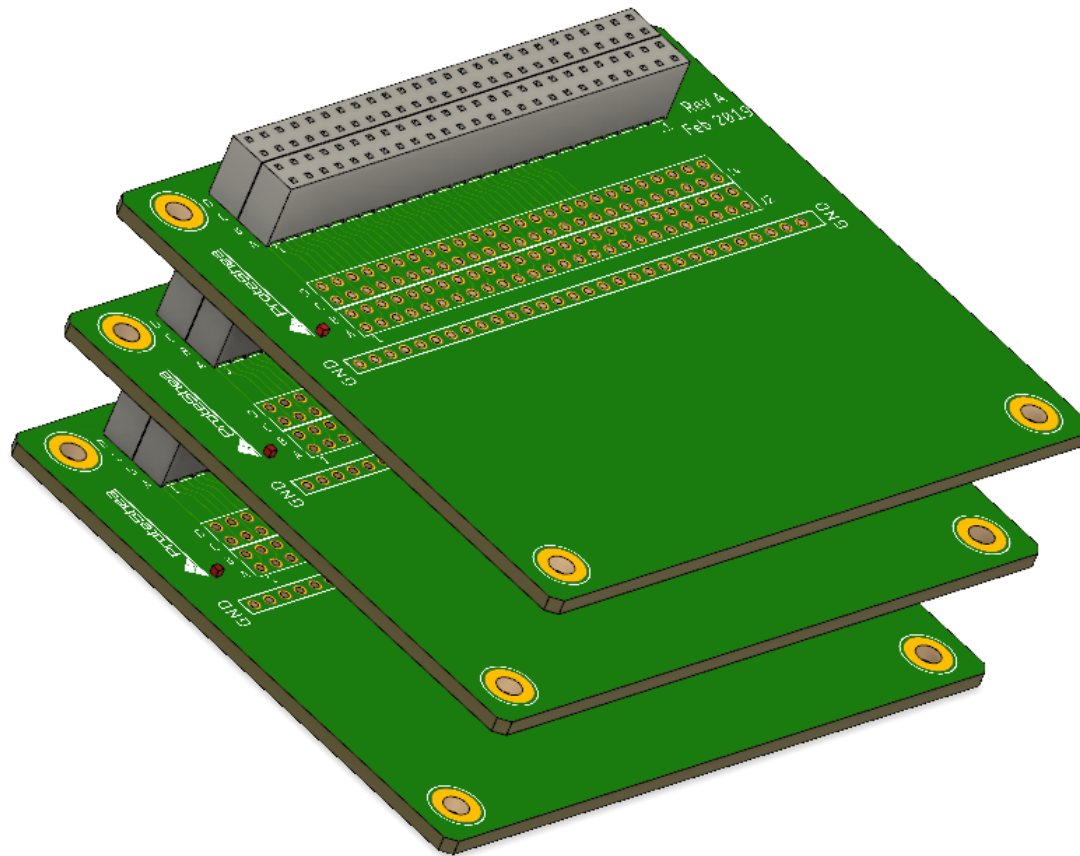

Figure 9. Example Canister Stack.
ELECTRIC SHOCK WARNING: Plugging in additional Canisters to the BaseOps board improperly could pose a potential risk of fire, damage, electric shock, or injury. Ensure that the canisters are stacked according to Fig. 9 in which pin A1 of all canisters line up.
6. Use Fig. 9 above to correctly connect additional Canisters with BaseOps by aligning pin A1 on both boards.